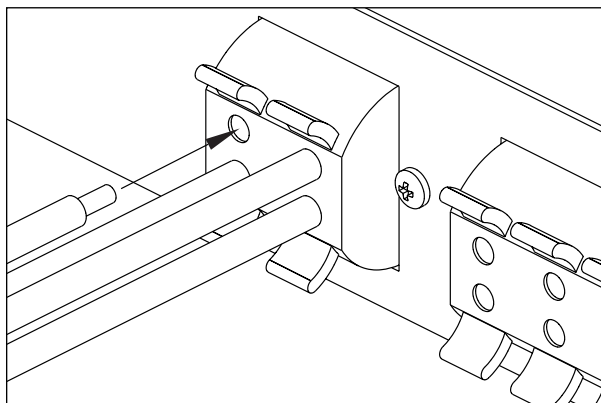

Figure 2
3. Make the connections to the SVL-1. Strip 3/8" of insulation from the end of each wire. Tightly twist the end of each wire until there are no frayed ends. Insert each wire into the appropriate hole on the spring-loaded connector terminals. Be certain that proper phasing is observed—connect the positive terminals on the SVL-1 to the positive terminals on the amplifier and speakers and the negative terminals on the SVL-1 to the negative terminals on the amplifier and speakers. See (Figure 2).